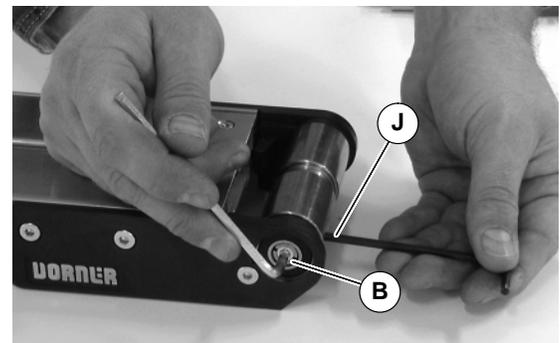

Figure 10
12. On both sides of pulley, use a 4mm hex-key wrench to tighten pulley taper screw (B of Figure 10) to 75 in-lb (8.5 Nm). Steady pulley with second hex-key wrench (J) inserted into pulley hole.